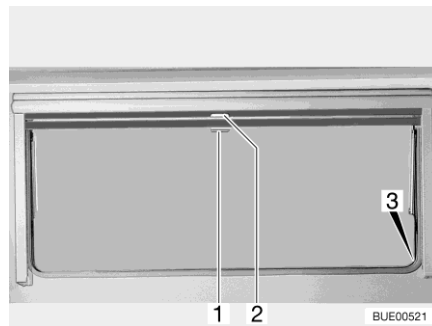

Fig. 104 Hinged window
- Pull blind at the handle (Fig. 104,2) downwards. If the blind is to be completely closed, it is suspended into the locking devices (Fig. 104,3) situated on both sides of the window frame.
- If the blind is completely closed: Press handle (Fig. 104,2) downwards and, at the same time, tilt it slightly inward. The blind can be taken out of the locking devices situated on both sides of the window frame.
- If the blind is in an intermediate position: Pull the handle (Fig. 104,2) slightly downwards until the locking device releases.
- Pull insect screen at the handle (Fig. 104,1) down and hang it into the locking devices (Fig. 104,3) situated on both sides of the window frame.
- Press handle (Fig. 104,1) downwards and, at the same time, tilt it slightly inward. The insect screen can be taken out of the locking devices situated on both sides of the window frame.